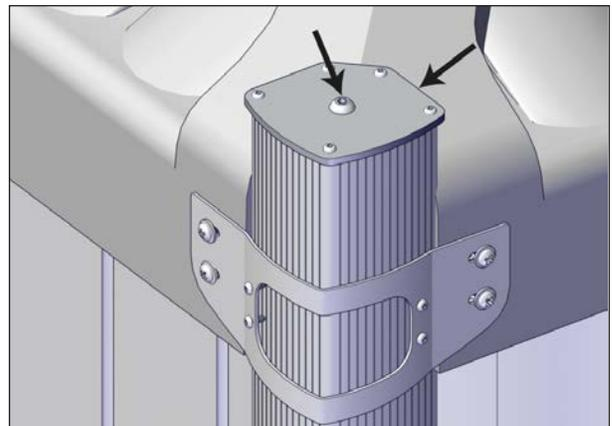

FIGURE 71: SCREW REMOVAL
3. Remove the five screws on the top plate of each post, see Figure 71.
4. Remove the center screw and bushing from each post. Keep the top plates, screws, and bushings in a safe location, see Figure 71.